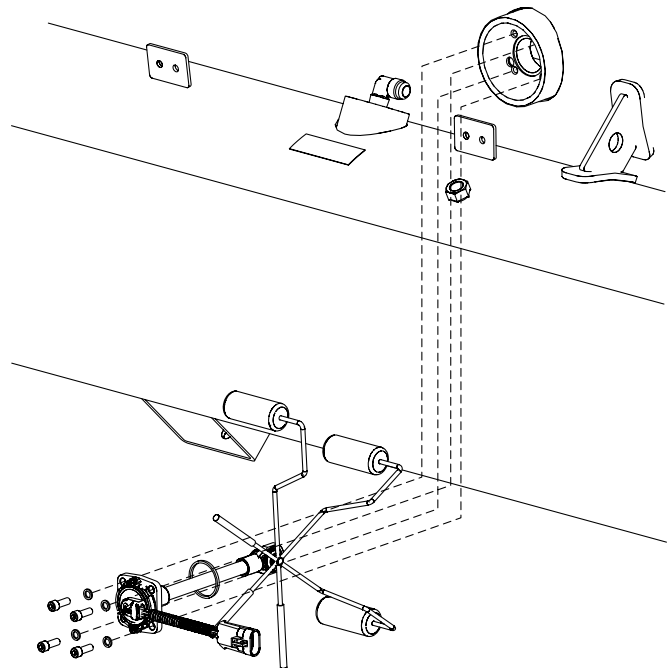
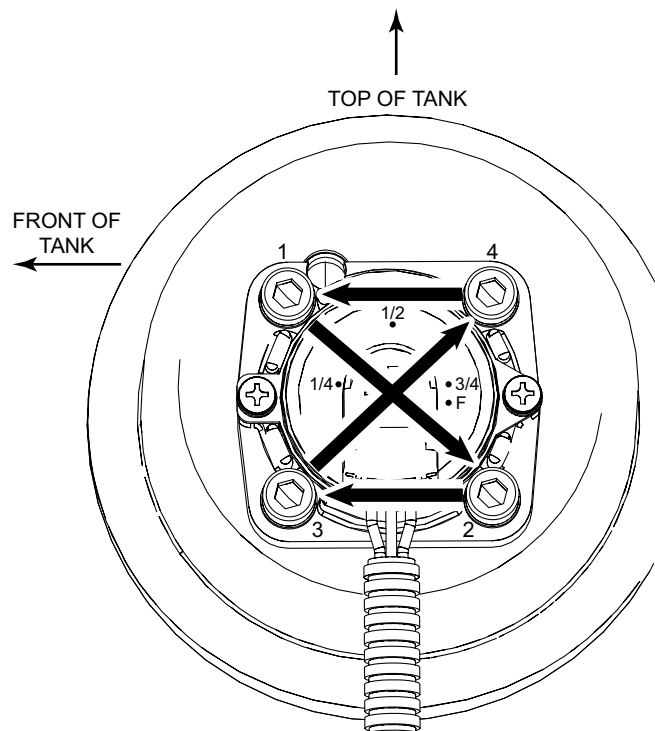

Figure 41 – Fuel Level Sender Installation
Figure 42 – Fuel Level Sender Torque Sequence
1. Install the new fuel level sender into the tank aligning it properly, see Figure 41. Apply silicone lubricant to the O-ring on the sender.
2. Secure the level sender to the tank with four (4) bolts hand tight.
3. Torque the bolts using the sequence and torques shown in Figure 42.